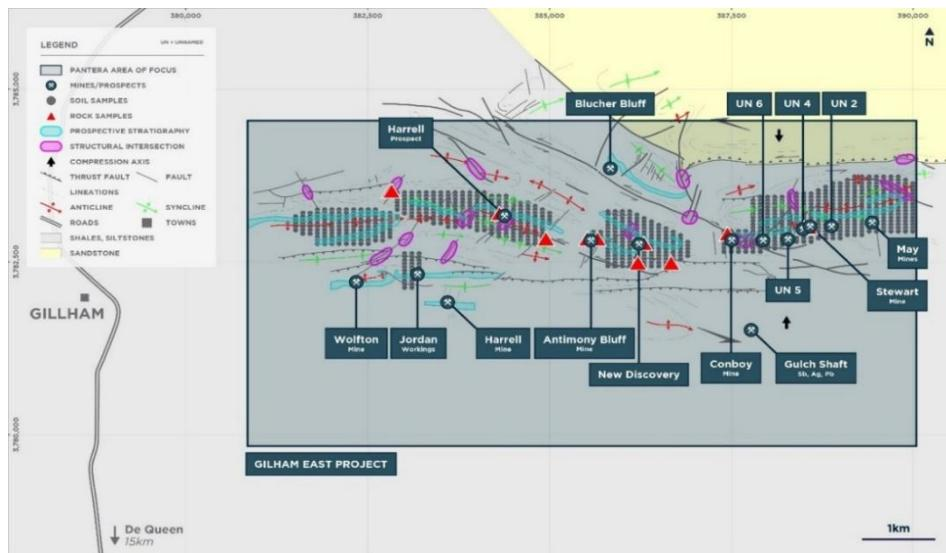

Figure 1 Rock and Soil sampling locations - East Gilham Project
- Systematic sampling and mapping of priority target corridors, including a 5km-long structural zone hosting the historic Davis silver-base metal mine have now been sampled and mapped (Figures 1 & 2).
**Pantera Minerals Limited (“Pantera” or the “Company”) (ASX: PFE) (OTCQB: PTMLF)** is pleased to announce the completion of the first modern rock and soil sampling program at the Gillham Silver-Antimony Project, covering ~5,000 acres in southwest Arkansas (Figure 1 & 2).